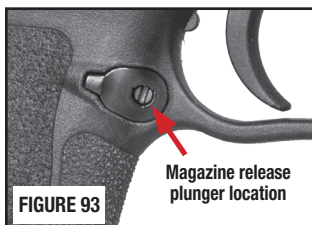

FIGURE 93
- FIGURE 93 shows the magazine release plunger's location while in the pistol.